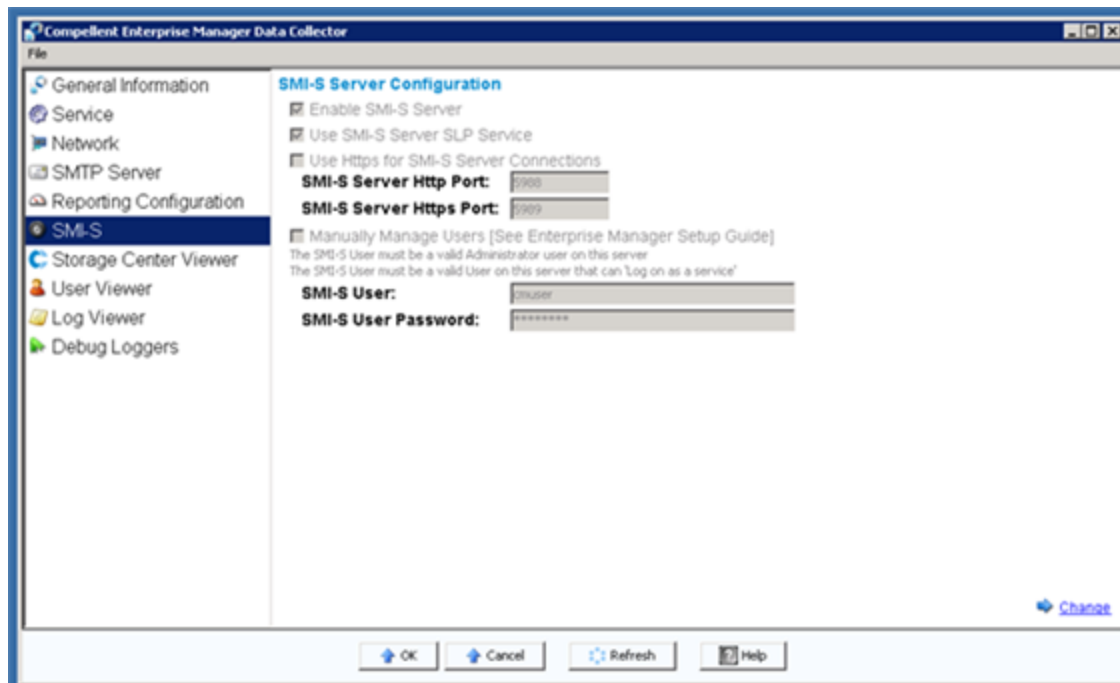

Figure 9: Enabling the SMI-S Server properties
14. Finally, you will be required to enable the SMI-S Server properties as shown in Figure 9 . Clicking the **Change** link in Figure 9 will enable you to make the following changes to the **SMI-S Server Configuration**: